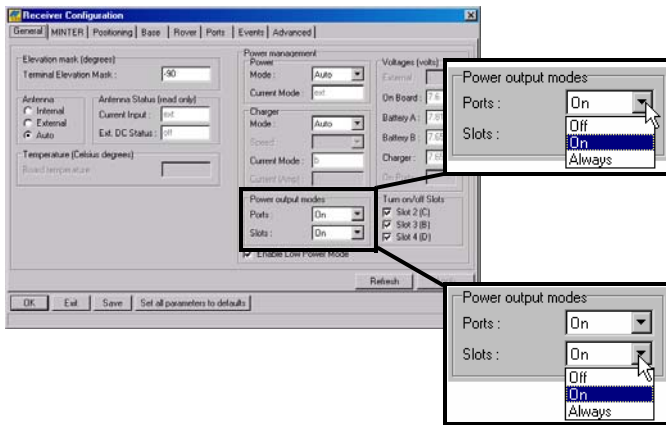

Figure 3-4. Select Power Output Modes – Ports and Slots
5. Select the **Power output modes Ports** drop-down list to set power output for the serial ports (Figure 3-4 on page 3-6).
6. Select the **Power output modes Slots** drop-down list to set power output on for the internal slots (Figure 3-4 on page 3-6).